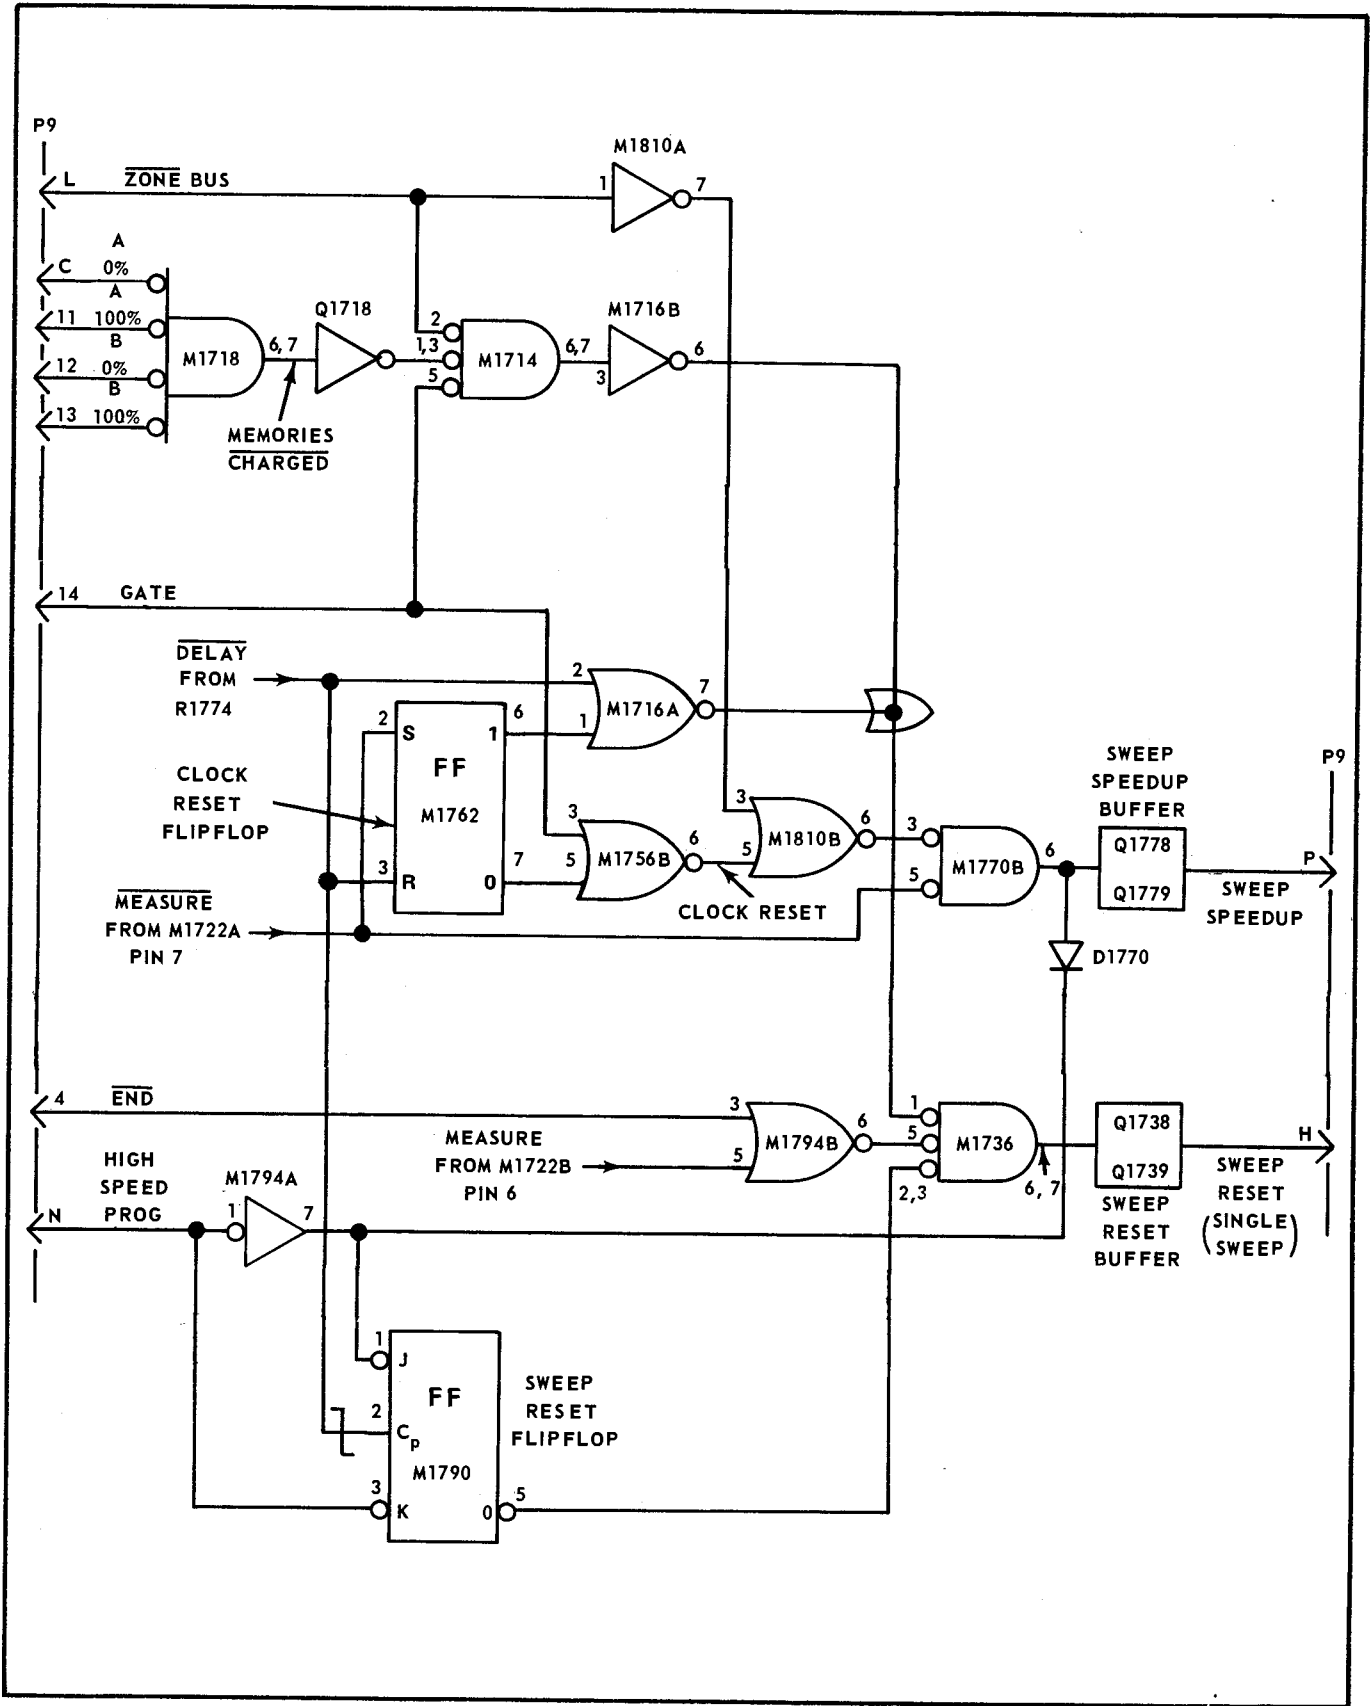

Fig. 4-31. SWEEP SPEEDUP and SWEEP RESET signal generation (synchronizer model 3-up).
The high-speed program functions are selected by applying a low level to P9 pin N of the synchronizer (see Fig. 4-31) by way of rear-panel connector J204. The SWEEP SPEEDUP and SWEEP RESET control signals that results are sent to the sampling-sweep unit through P9 pins P and H. When using the Type 3T5 or 3T6 plug-in units, pins P and H are high except when the high-speed function (sweep speedup or reset) is active. When using the Type 3T4, pins P and H are negative (−12 volts) except when the high speed function is active. Buffers Q1778-Q1779 and Q1738-Q1739 act as inverters with the Type 3T5 or 3T6, and as non-inverting level-changing circuits with the Type 3T4.
**Sweep Reset (Single Sweep).** Instrument turn-on presets sweep reset flipflop M1790 through C1790 so that output pin 5 is high. This is the state of the flipflop for normal (not high-speed) operation. If HIGH SPEED PROGRAM is **not** selected, the high at P9 pin N is applied to pin 3, the K input of M1790, and a low is applied by inverter M1794A to pin 1, the J input of M1790 (see Fig. 4-31). When DELAY occurs, the negative-going edge at the end of DELAY is applied to